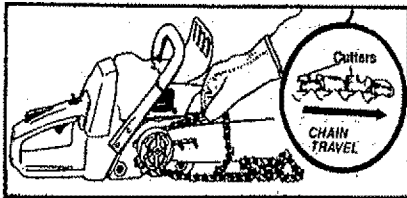

Figure 9
- Hold chain with cutters facing as shown in Figure 9.
- Start at the top of the bar and fit the chain drive links into the groove around the guide bar, Figure 9.